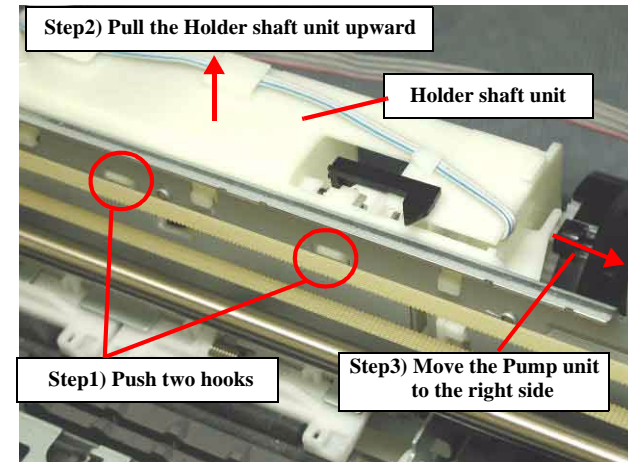

Figure 4-30. LD roller shaft holder removal
7. Push two hooks of the LD roller shaft holder, and pull the Holder shaft unit upward slightly from the Main frame. (Step1, 2 in the Figure 4-30)
8. Move the Pump unit to the right side slightly while holding the whole of the Holder shaft unit, and pull the bottom of the Holder shaft unit toward the backside of the printer. (Step 3 in the Figure 4-30)